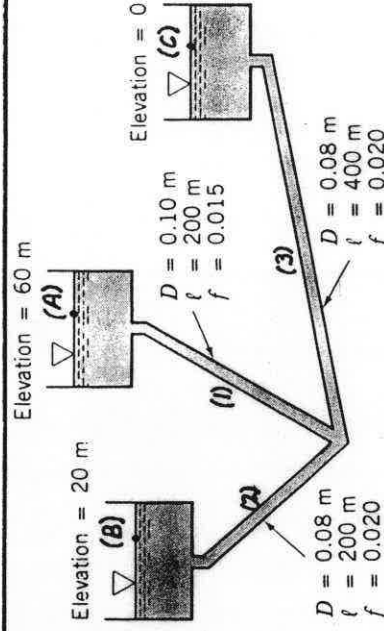

FIGURE P8.92
8.92 The three water-filled tanks shown in Fig. P8.92 are connected by pipes as indicated. If minor losses are neglected, determine the flowrate in each pipe.